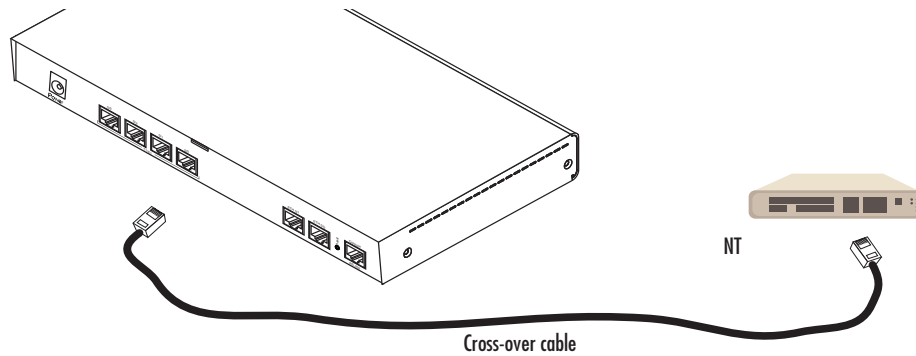

Figure 14. Connecting an E1 PRI port to an NT1
The E1 PRI is usually connected to a PBX or switch—local exchange (LE). Type and pin outs of these devices vary depending on the manufacturer. In most cases, a straight-through RJ-45 to RJ-45 can be used to connect the PRI with a PBX. A cross-over cable is required to connect to an NT device, as illustrated in figure 14.